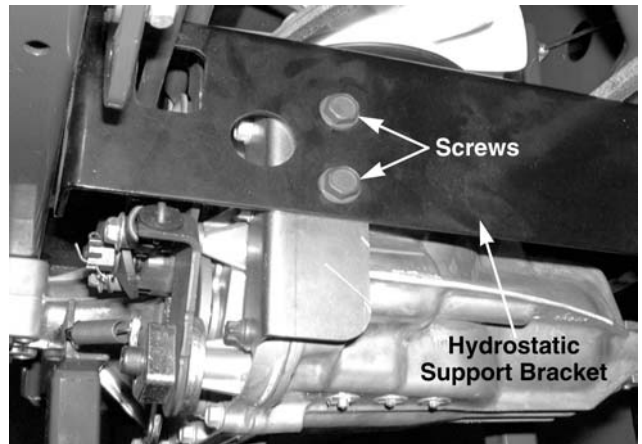

Figure 9-59
20. Remove both self tapping screws securing the front of the hydrostatic transmission to the front hydrostatic support bracket using 1/2" socket. See Figure 9-59.